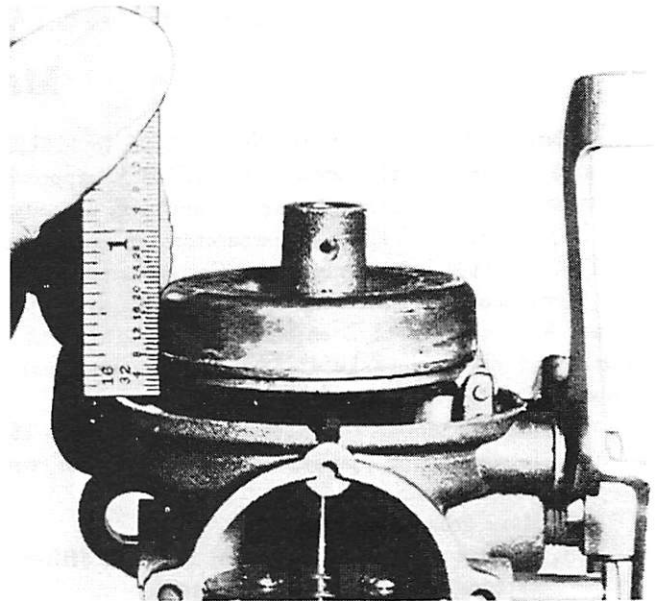

Figure 12. Float Clearance
4. There should be a $3/32''$ clearance between outer surface of casting and free end of float (side opposite needle seat). Adjust by bending lip of float. (Figure 12)